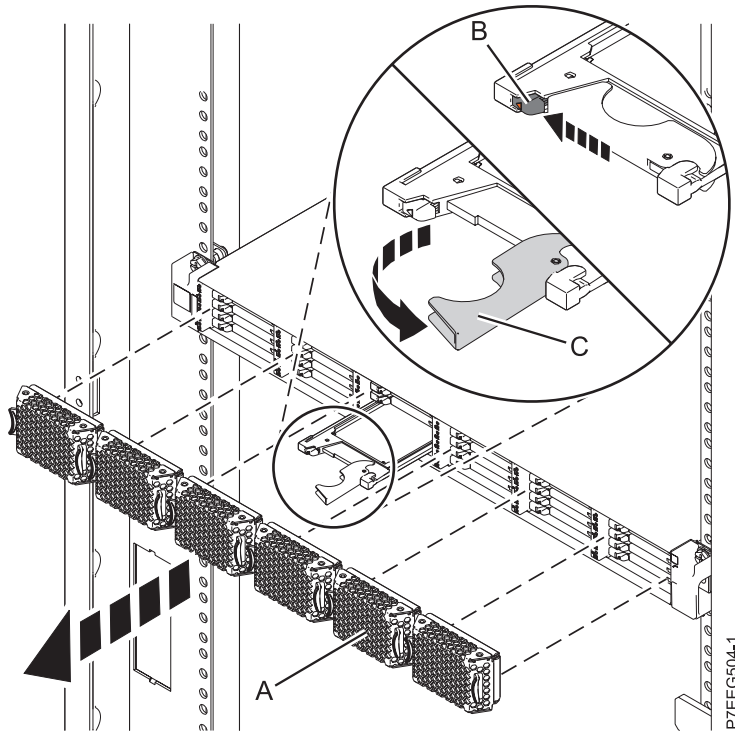

Figure 20. Removing the solid-state drive from the 58/88 PCIe storage enclosure
1. Pull off the bezel (A) that covers the slot that contains the solid-state drive. See Figure 20 on page 34.
2. Slide the release latch (B) over gently to unlock the drive handle.
3. Grasp the handle (C) and pull the drive partially out of the slot.